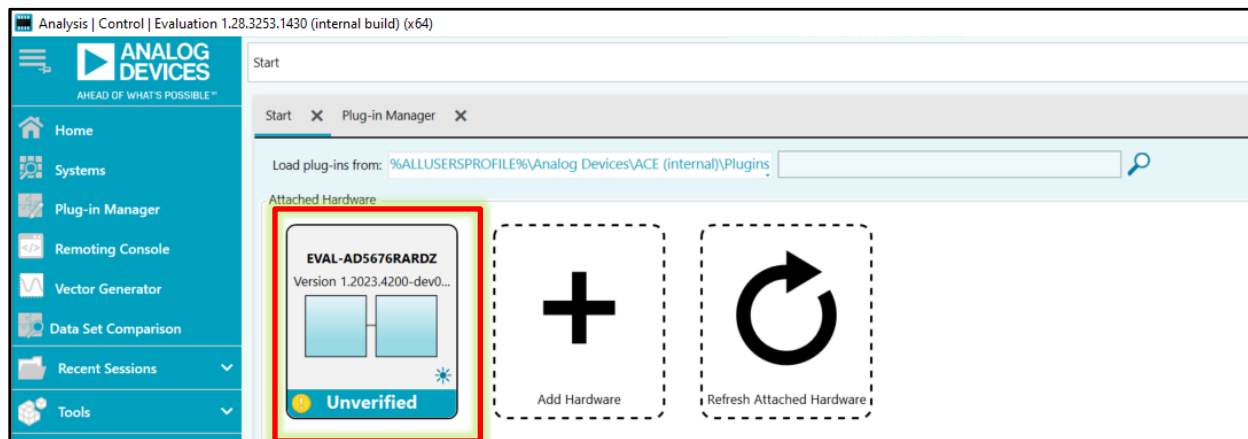

Figure 16
2. Open ACE, EVAL-AD5676RARDZ will show up as an Attached Hardware, shown in Figure 16. Double-click on the EVAL-AD5676RARDZ image.